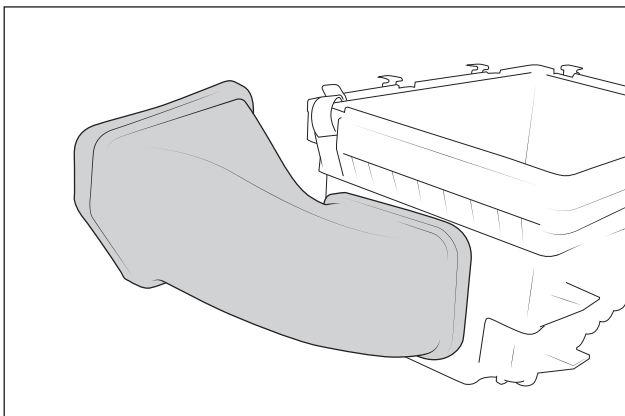

Figure 14
2. Remove the air inlet tube (Fig. 14).